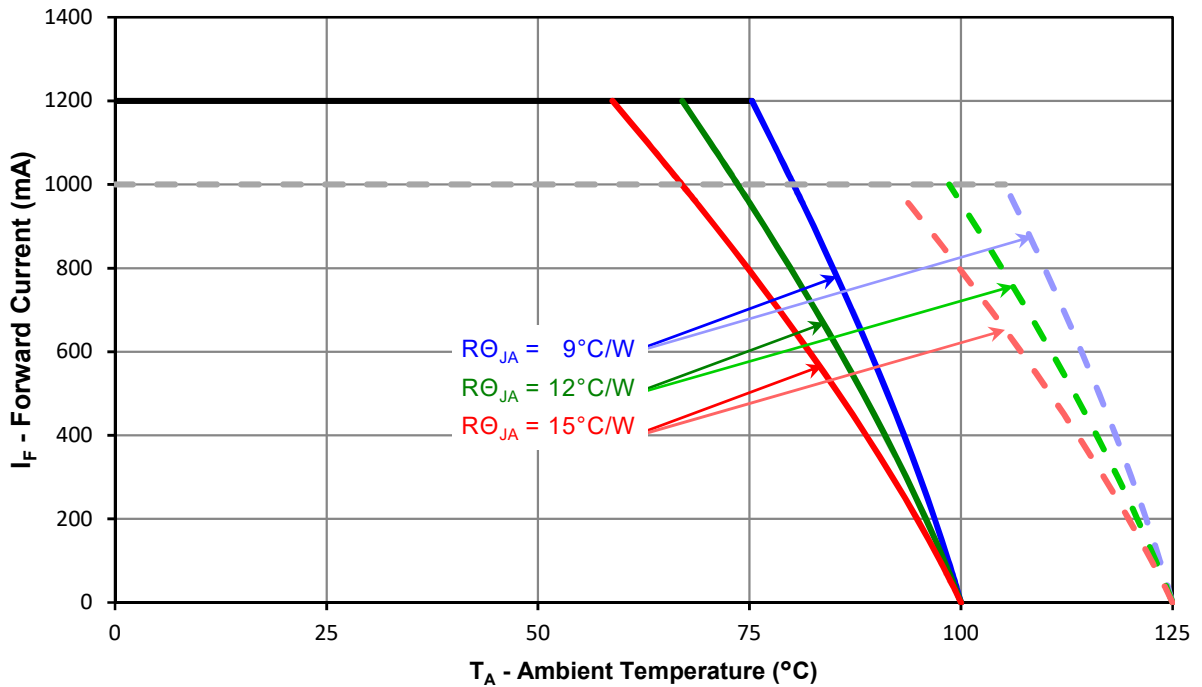

Figure 11: Maximum forward current vs. ambient temperature
- Maximum DC forward current (per die) is determined by the overall thermal resistance and ambient temperature. Follow the curves in Figure 11 for current derating.
Notes for Figure 11: